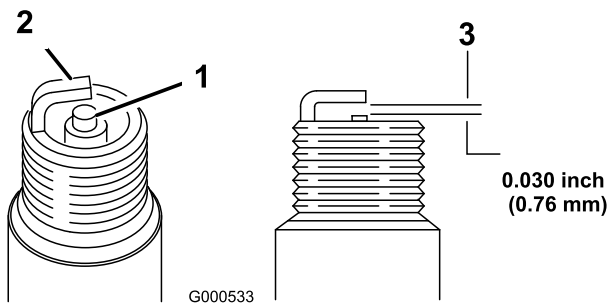

Figure 31
5. Set the gap on the plug to 0.76 mm (0.030 inch) (Figure 31).